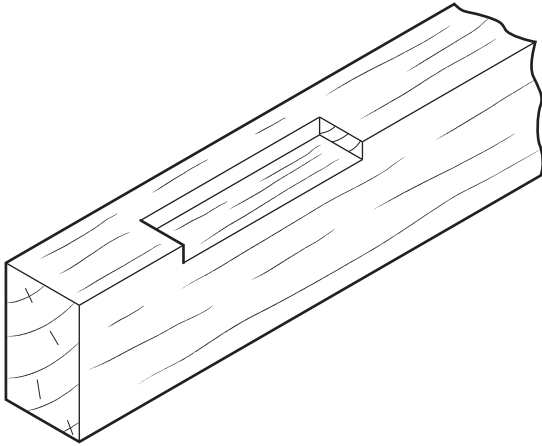

Fig. 7.1
- 7 Fig. 7.1 shows a hardwood rail, 40 × 25, with a recess cut out, ready to take a butt hinge.